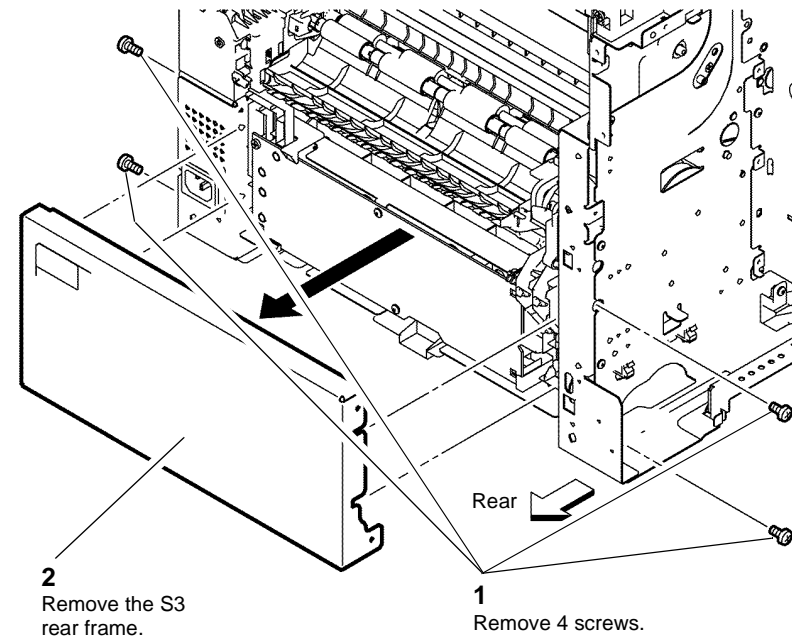

Figure 2 S3 rear frame
5. Remove the S3 rear frame, Figure 2,